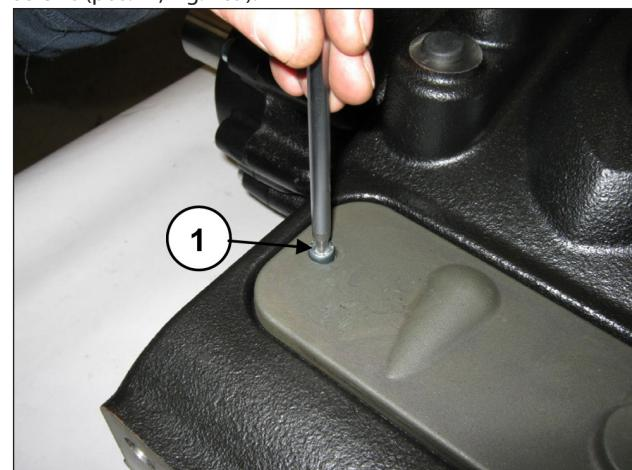

Fig. 169
Remove the upper inspection cover, unscrewing the 2 fixing screws (pos. ①, Fig. 169).